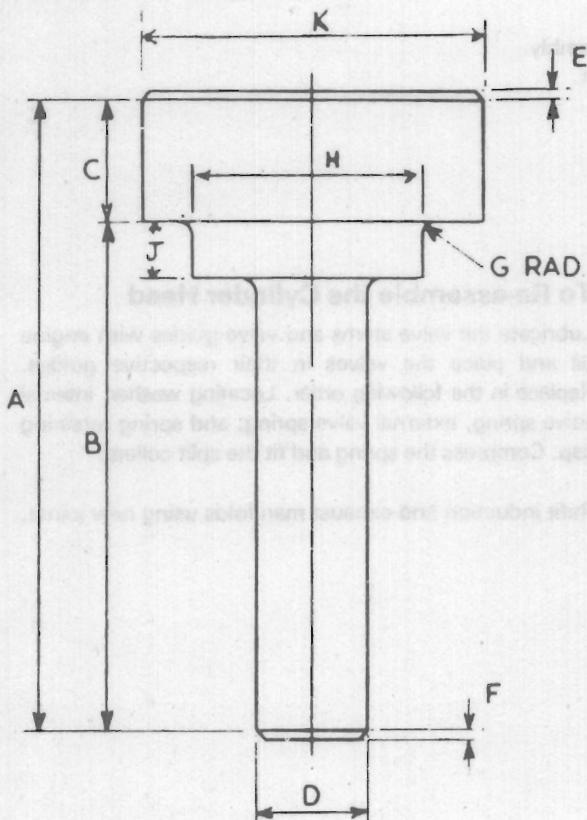

Fig. E.10.
4. Using a dolly machined to the dimensions Fig. E.10), again using the valve guide bore as a pilot, press home the insert using steady pressure from a hand or hydraulic press. Under no circumstances should the insert be hammered in or lubricated.